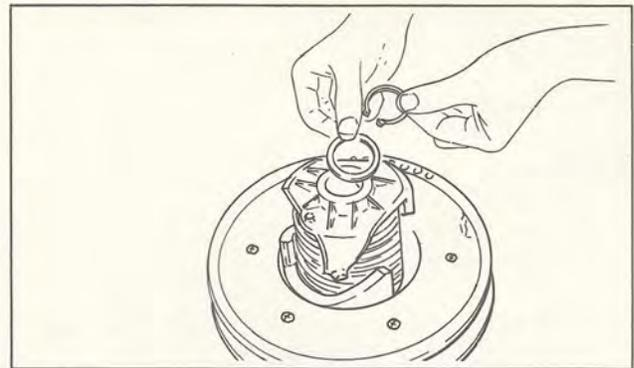

Fig. 3-4
(3) Remove the distance collar, and remove the circlip using pliers. Remove the shim, spring seat, secondary spring, plate 2 and secondary sliding sheave complete. (Fig. 3-4,3-5)